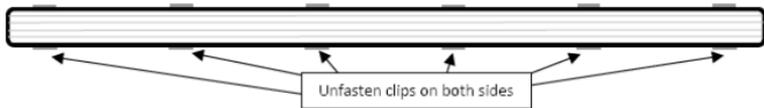
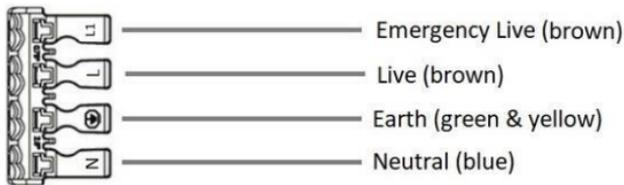

Fig. 2
Fig. 3
- Unfasten the clips on either side of the fitting (see Fig. 2)
- Fix the connector block onto required mounting point. Connect to the mains supply ensuring the correct polarity is observed: L – Live, L1 – Emergency Live (brown), E – Earth (green/yellow), N – Neutral (blue) (see Fig. 2). Two cables can be inserted into the push-fit terminal block to achieve loop-in/loop out wiring (see Fig. 3)